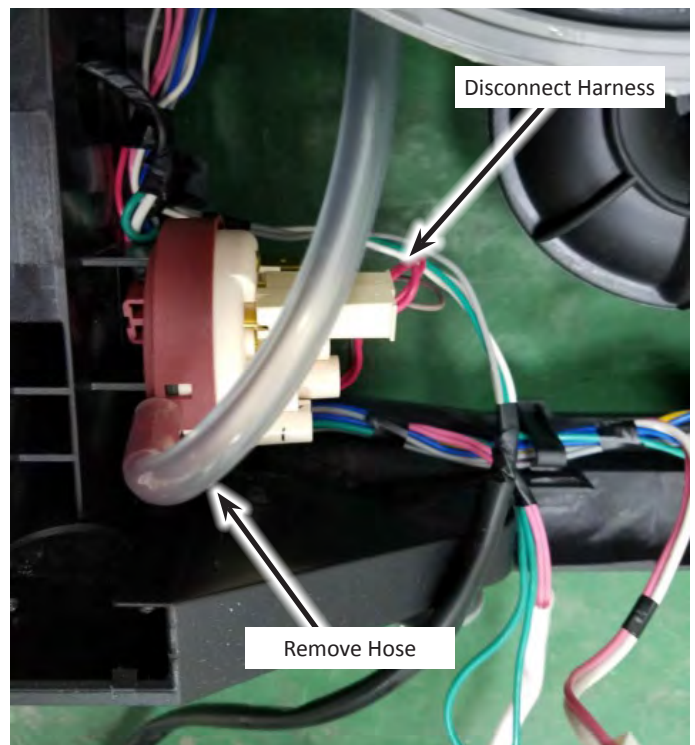

Figure 2
6. Disconnect harness from pressure switch (see Figure 2).
7. Remove the pressure switch hose from the pressure switch. See Figure 2.